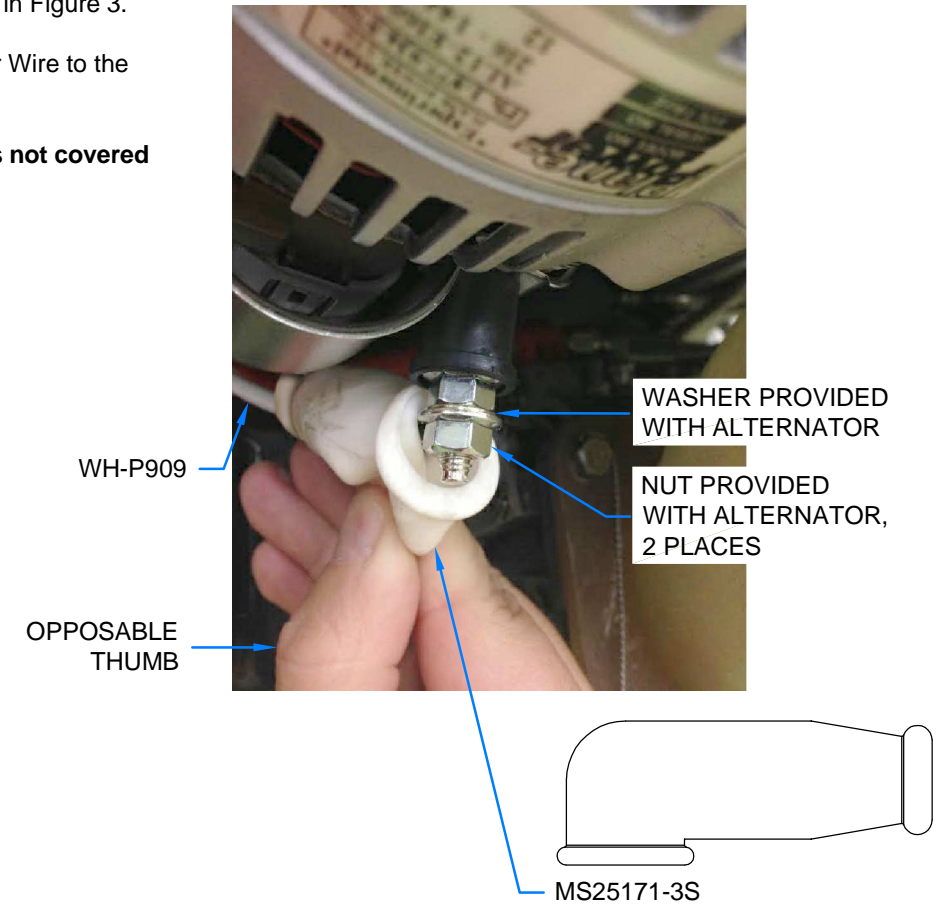

FIGURE 3: CONNECT ALTERNATOR POWER WIRE
Step 5: Add the insulated boot where called out in Figure 3.
Step 6: Connect the WH-P909 Alternator Power Wire to the bottom of the alternator as shown in Figure 3.